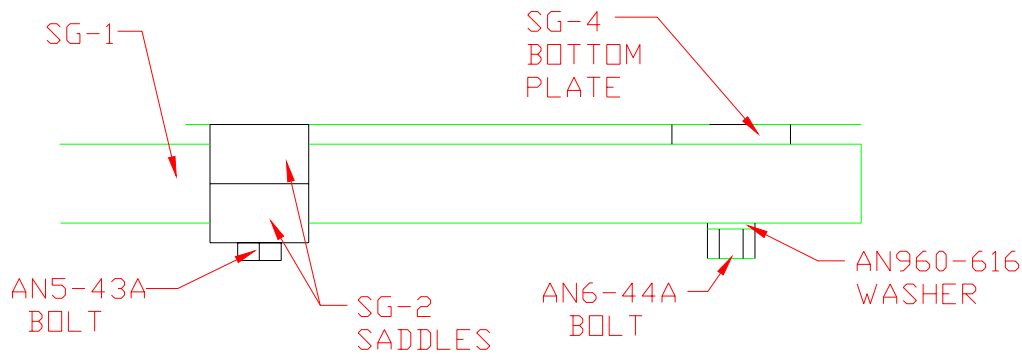

Figure 14.3.4
20) Now, carefully slide a Spring Gear (SG-1R or SG-1L) between the SG-2 saddles. Figure 14.3.4. You will have to drop the two AN5-43A bolts slightly so it fits between the saddles.
21) Slide a SG-4 bottom plate between the Spring Gear and the SG-7 plate. See Figure 14.3.4